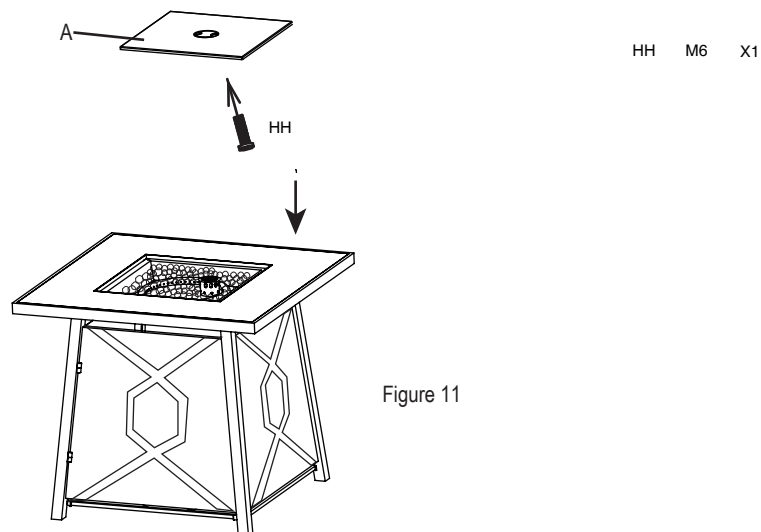

Figure 11
11. Once the firepit has cooled completely after use, carefully place the lid (A) onto the fire bowl (see Figure 11).